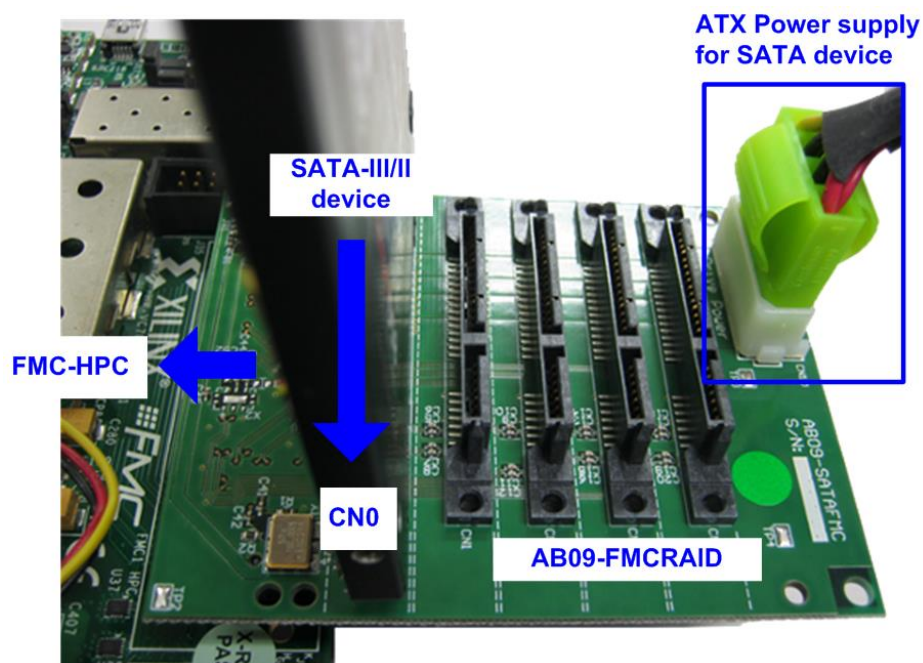

Figure 2-2 AB09-FMCRAID connection
- 3) Connect the SATA-II/III device on AB09 and then connect AB09 to FPGA board as shown in Figure 2-2.